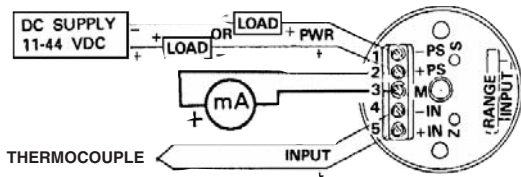

Figure 3-5 Wiring Diagram for the TX91 Potentiometers
3.2 Wiring the TX91 (Refer to Figure 3-5)
Check the wiring using Figure 3-5 as a guide. If the temperature of the thermocouple increases while the current magnitude decreases, the problem could be caused by reversed polarity of the: